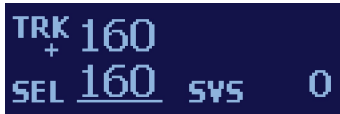

Figure 5.4.1e
NOTE: There is a special case of vertical speed when zero (0) is selected. This is not altitude hold, but will maintain zero vertical speed. This mode allows the aircraft to vary in altitude, and in heavy turbulence will give a smoother ride to the occupants. The SVS zero mode is shown in figure 5.4.1e.